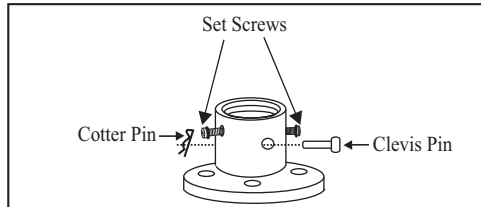

Figure 6
3. Remove the clevis pin, cotter pin and set screws from the top of the motor assembly. (Figure 6)